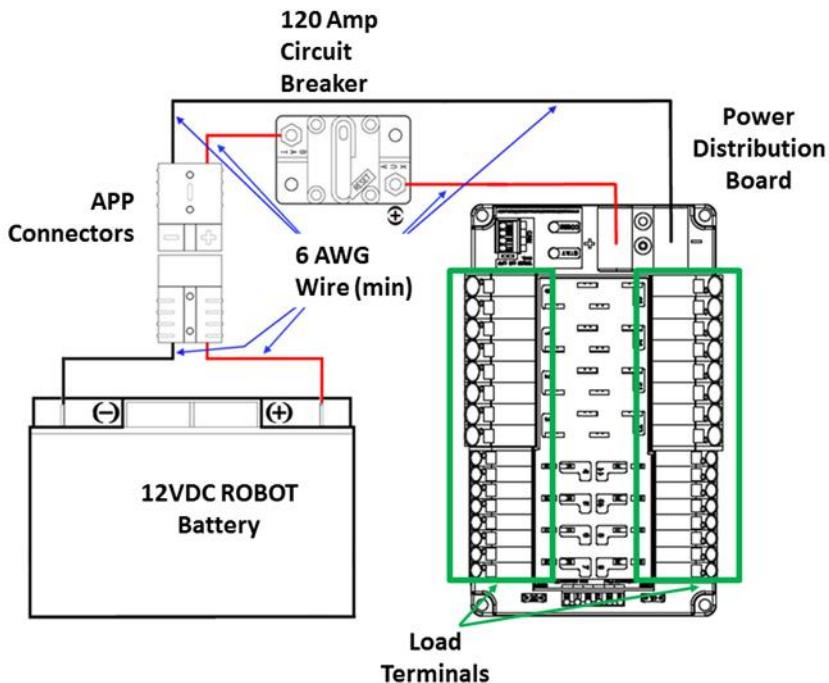

Figure 9-10 Electrical connection diagram
R40. The one (1) ROBOT battery, a single pair of Anderson Power Products (or APP) 2-pole SB type connectors, the one (1) main 120-amp (120A) surface mount circuit breaker (Cooper Bussman P/N: CB185-120, CB185F-120, CB285-120), and the one (1) CTR Electronics Power Distribution Panel (PDP, P/N: am-2856, 217-4244, 14-806880) shall be connected with 6 AWG (7 SWG or 16 mm²) copper wire or larger, with no additional devices or modifications, as shown in Figure 9-10.
R41. All circuits, with the exceptions of those listed in R46 and R48, must connect to, and have power sourced solely by, a single protected 12VDC WAGO connector pair (i.e. the Load Terminals, as shown in Figure 9-10) of the one (1) CTR Electronics Power Distribution Panel, not the M6 cap screws.